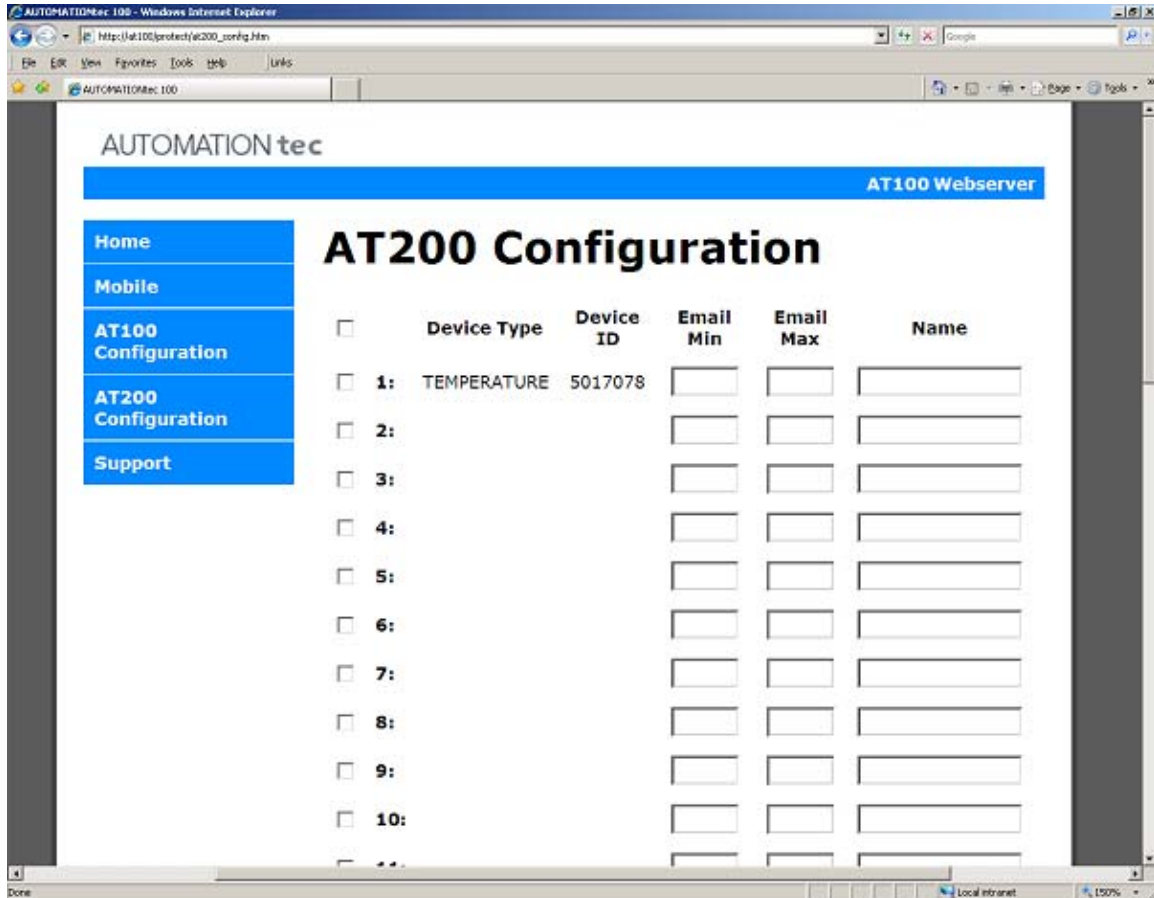

Fig 6
5. Refresh the AT200 Configuration page to see the learned AT200. The Device ID should match the serial number on the back of the AT200. (Fig 6)
A valuable feature of the AT100 is its ability to send alert emails for abnormal environmental conditions, such as a temperature reading outside of a defined acceptable range. This could be used to alert you about an abnormal situation like a heating or air conditioning breakdown, or other problem. If you look back at the AT200 configuration screen in Fig 6, you will see that each module has an “Email Min” and “Email Max” column. Use these text boxes to enter the allowable range that each sensor can return that you consider to be normal. If you set the “Alert Emails” radio button to “Yes” and then one sensor is reporting a value that is outside the defined acceptable range, you will receive an alert email for the first time the value goes out of range. The email will have the AT100’s Host Name on the subject line and the body will show you the sensor’s status in text, similar to this: